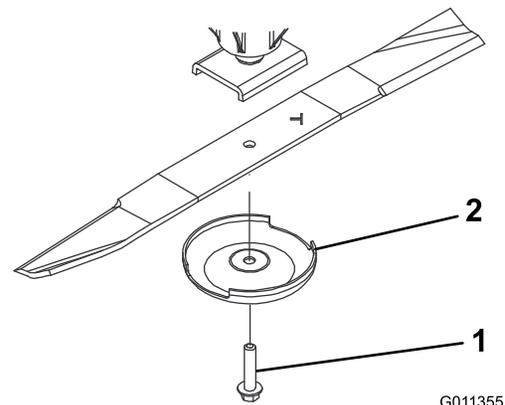

Figure 67
3. Grasp the end of the blade using a rag or thickly padded glove and remove the blade bolt, anti-scalp cup, and blade from the spindle shaft (Figure 67).
4. Install the blade with the sail facing toward the cutting deck, with the anti-scalp cup and blade bolt (Figure 67).